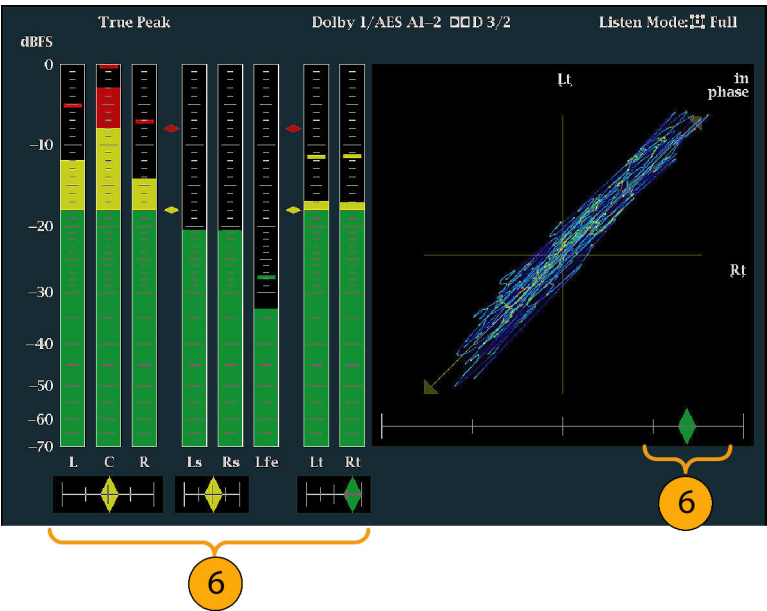

Figure 74: Checking for phase correlation
6. Check for Phase correlation of the signals, noting the following: (See Figure 74.)